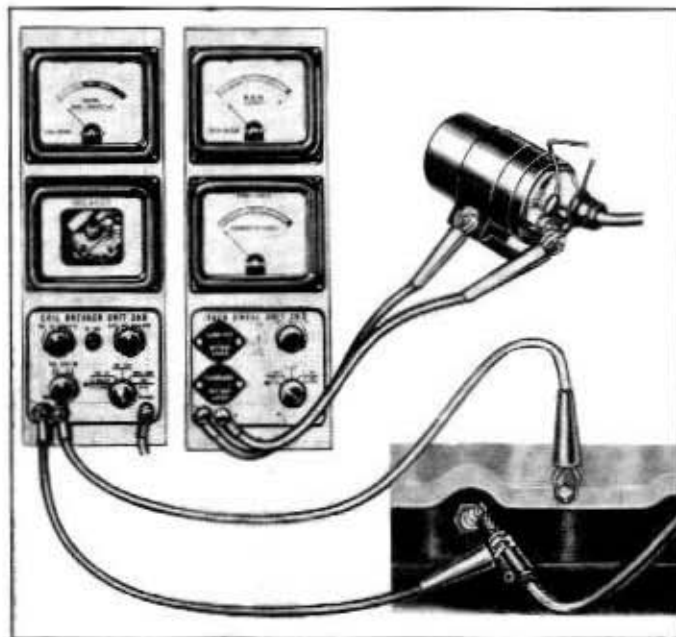

Fig. 9-46—Secondary Resistance Test—(60C-7705)
5. Connect Tach-Dwell Unit leads, black lead to a good engine ground and red lead to ignition coil DIST. terminal. See figure 9-46.